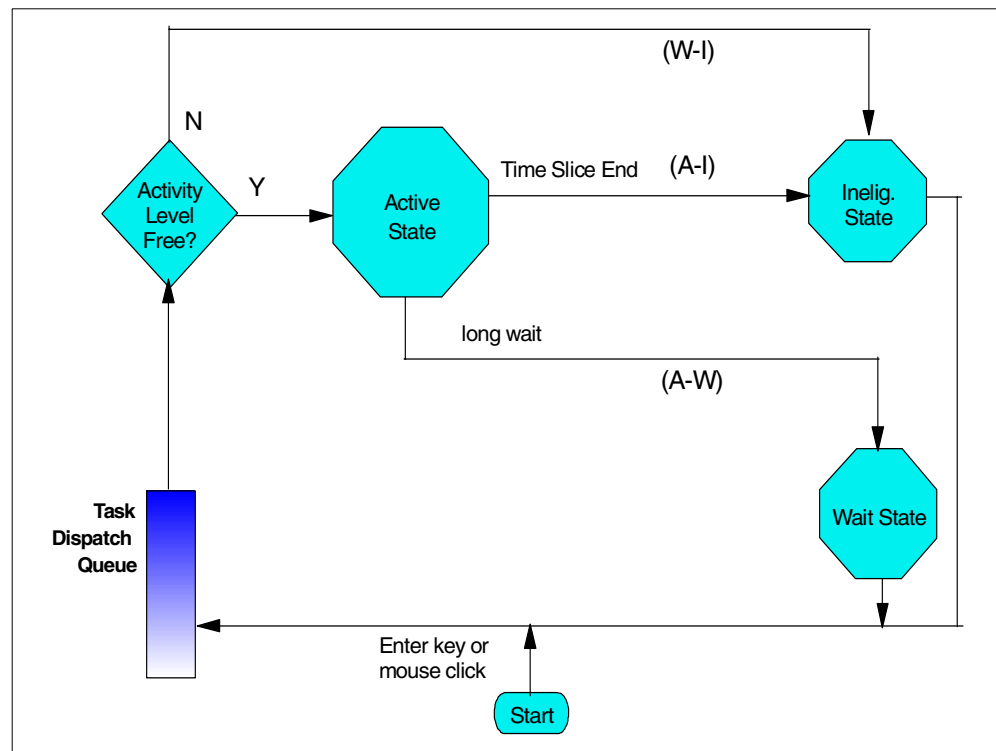

Figure 28. Thread transition states using the WRKSYSSTS command
- **Job transitions:** As each thread in a job runs in the system, it is transferred between states. The following transitions can be displayed by using the AS/400 system Work with System Status (WRKSYSSTS) command and pressing the F11 key (Figure 28):